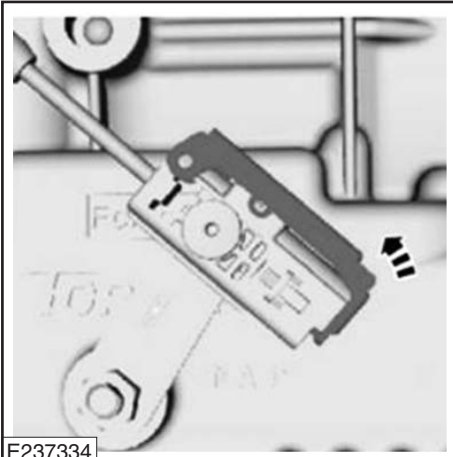

Figure 89
2. Open the adjuster lock (**Fig. 89**).